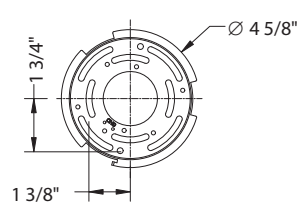

Fig. 4 Wiring
8. Connect the driver's output wires, fixture's wires and 4CCT switch's wires together using wire connectors (B) as shown in Fig.4.